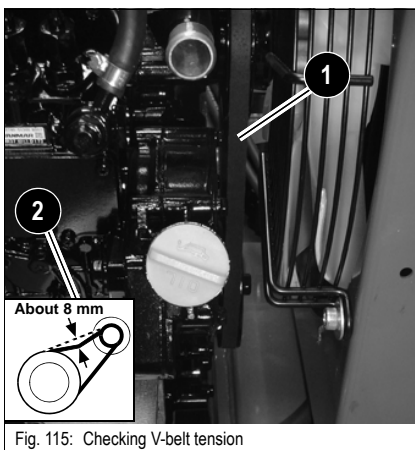

Fig. 115: Checking V-belt tension
- ⓘ Press with your thumb about 100 N (22.5 lbs) to check the deflection of the V-belt between the crankshaft disc and the fan wheel. A new V-belt should have a deflection of 6 to 8 mm (0.24" to 0.31"), a used V-belt (after about 5 minutes running time) should have a deflection of 7 to 9 mm (0.28" to 0.35") (fig. 115/2).